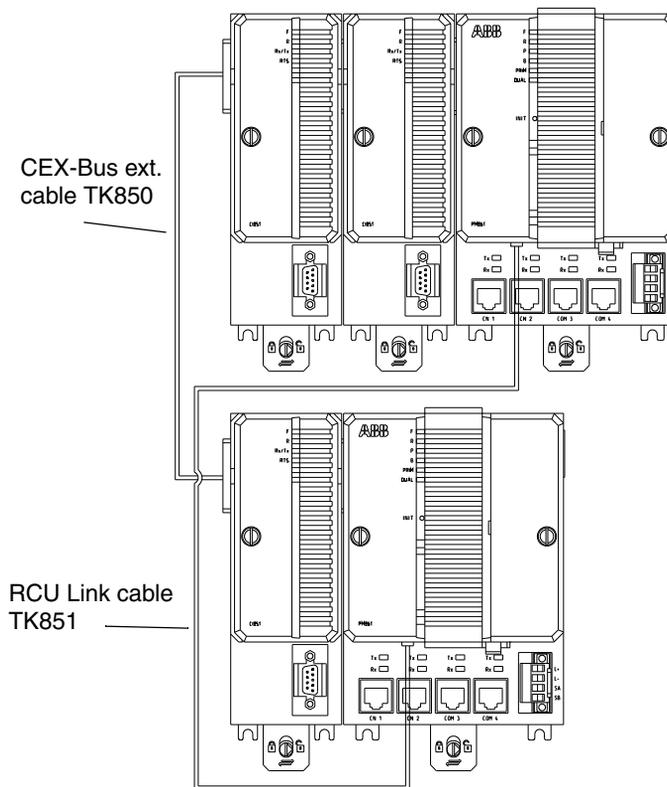

Figure 29. Connection of CPU redundancy
4. If BC810s are used, connect the TK851 cable to the two BC810s (Figure 31 on page 100). If no BC810s are used, mount the CEX-Bus extension cable TK850 to the units at farthest away from the processor units or, if no units are mounted, directly to the CEX-Bus on the processor unit. The CEX-Bus extension cable must be connected to both CPUs whether or not there are any other CEX-Bus units (Figure 29 on page 93).
4. If BC810s are used, connect the TK851 cable to the two BC810s. If no BC810s are used, mount the CEX-Bus extension cable TK850 to the units at farthest away from the processor units or, if no units are mounted, directly to the CEX-Bus on the processor unit. The CEX-Bus extension cable must be connected to both CPUs whether or not there are any other CEX-Bus units (Figure 29 on page 93).